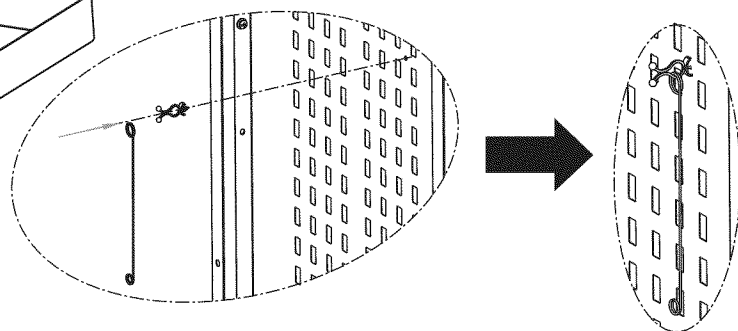

Fig. 8d
4. Insert the nylon knot into the hole on the side panel, then put the match holder in it and capture it as shown in **Fig. 8d**.